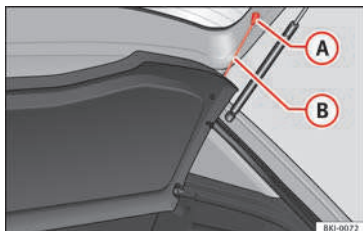

Fig. 140 In the luggage compartment: removing and installing the rear shelf.
- Unhook the loops » **Fig. 140 B** from their hooks **A**.
- Attach the fastening loops » **Fig. 140 B** to the rear lid.